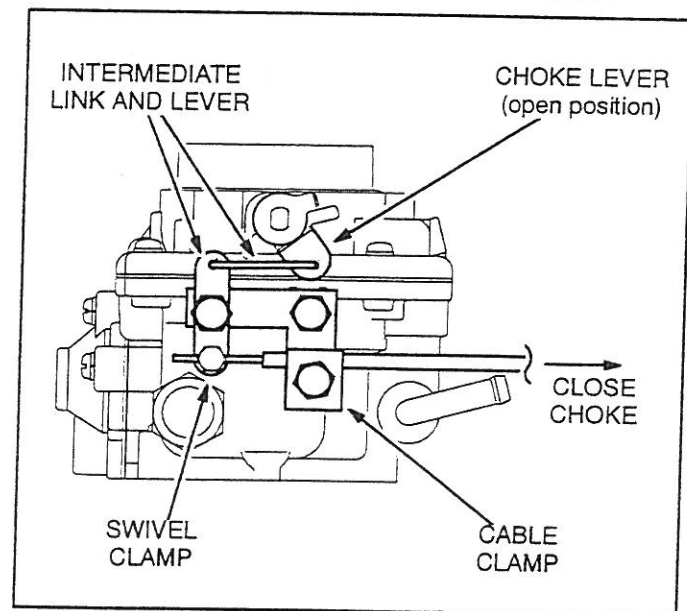

FIGURE 6. FRONT-PULL CHOKE CABLE
3. Connect the choke cable to the choke lever. (The cable will either hook into the choke lever or be clamped by a screw in a swivel on the choke lever. See Figure 6.) Pull the slack out of the cable and clamp it.